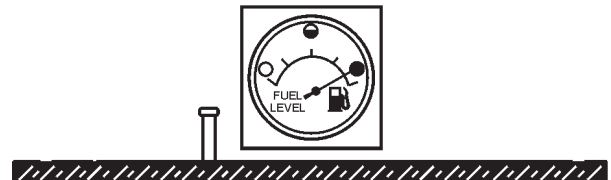

Figure 32. Full Fuel Tank
3. **NEVER overfill fuel tank** – It is important to read the fuel gauge when filling trailer fuel tank. **DO NOT** wait for fuel to rise in filler neck (See Figure 32).